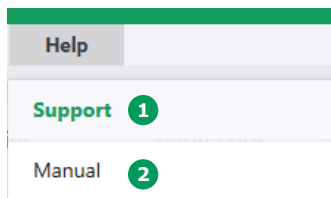
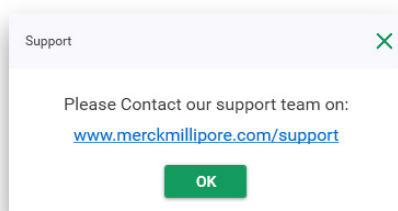

Figure 51 - Prove Connect's Help menu
Figure 52 - Support pop-up that is opened by clicking on ① in Figure 51
The help menu (Figure 51) allows you to open a PDF version of the user manual and shows you a support email address.
If you click on the “Support” sub menu ① (Figure 51), a dialog window is opened that shows the support email address (Figure 52):
When you click on the “Manual” sub menu ② (Figure 51), the PDF user manual is opened in your standard Windows application. You can close the file in your Windows application.